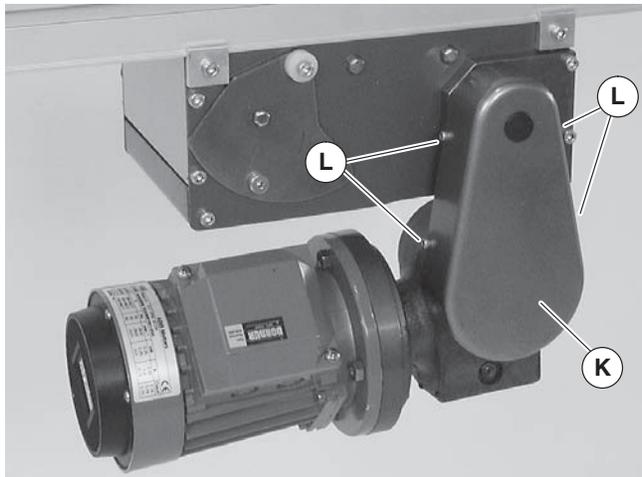

Figure 11
9. Install cover (Figure 11, item K) with four (4) screws (L). Tighten screws to 35 in-lb (4 Nm).
1. Remove four (4) screws (Figure 11, item L) and remove cover (K).
4. Install cover (Figure 11, item K) with four (4) screws (L). Tighten screws to 35 in-lb (4 Nm).
6. Install cover (Figure 11, item K) with four (4) screws (L). Tighten screws to 35 in-lb (4 Nm).